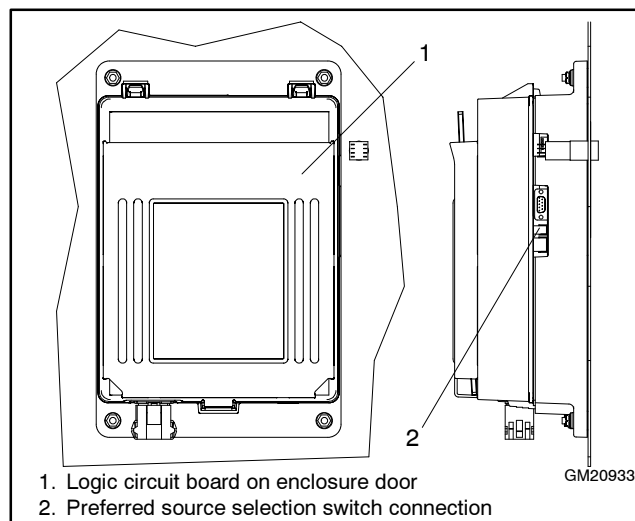

Figure 8 Connect Switch Assembly to Logic Circuit Board
- 3.3 Connect the terminal block to the mating connector on the transfer switch logic circuit board. See Figure 8.